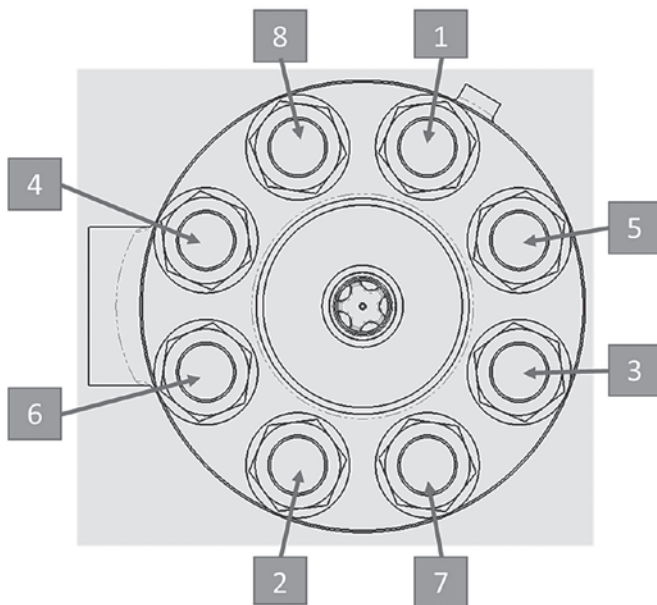

Figure 12 - Torque Sequence Single Bolting Circle 8 Bolts
2. Single bolting circle: in all the case, mount the nuts in order to indicate by the Figures 12 and 13 and screw them by successive, uniform and progressive levels. Make sure that the bonnet's face stays parallel at the body one, up to the torque value given in table 5 and 6 are reached.